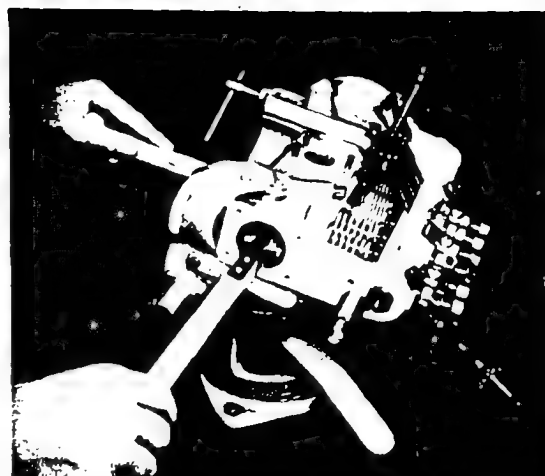

Fig. 60 Fitting the roller tappet (size A and Z)
4. Installing the roller tappet (6)
a) Insert roller tappet on pumps PE...B from below (see Fig. 20), on pumps type PE...A and PE...Z through the bearing aperture (Fig. 60), by means of forceps for tappet EFEP 91 (for size A and B) or EF 8163 C (for size Z). Align tappet pin so that it will easily go into the guide groove in the pump housing.